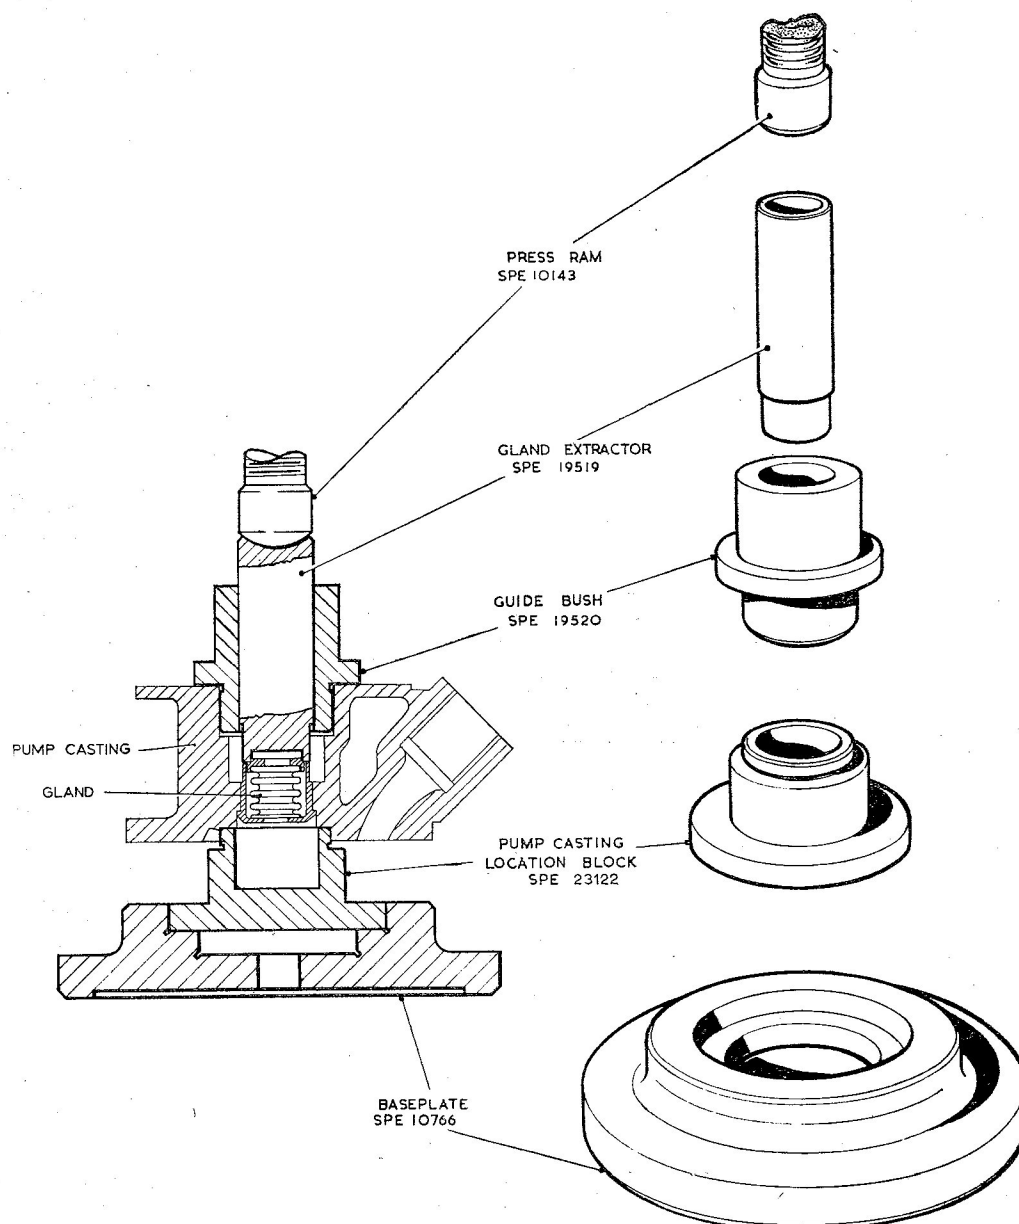

Fig. 3. Removing the bellows gland
16. (1) Using the special tools illustrated in Fig. 3, press the bellows gland (22) out of the body.